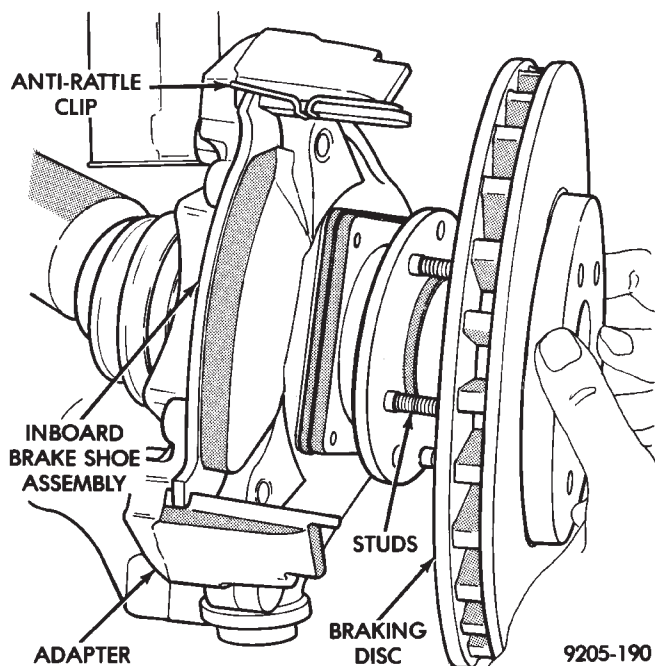
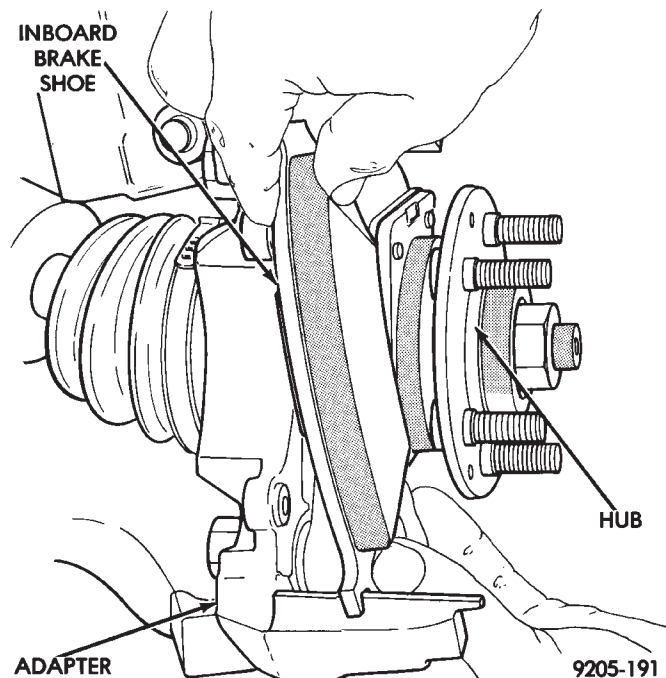

Fig. 6 Removing or Installing Braking Disc
Fig. 7 Removing or Installing Inboard Shoe Assembly
- (8) Remove the braking disk (rotor) from the hub by pulling it straight off the wheel mounting studs (Fig. 6).
- (9) Remove the inboard brake shoe assembly by sliding it out along the bottom adapter abutment until brake shoe assembly loosens from anti-rattle clip (Fig. 7).
(4) Install the new inboard brake shoe assembly on the adapter by sliding it along the adapter abutments. Be careful not to get any grease from the adapter abutment on the surface of the brake lining material, (Fig. 7). Be sure inboard brake shoe assembly is correctly positioned against anti-rattle clip (Fig. 6).
(5) Reinstall the Braking Disc on the hub, by installing it over the wheel studs until it is seated against the face of the hub (Fig. 6).